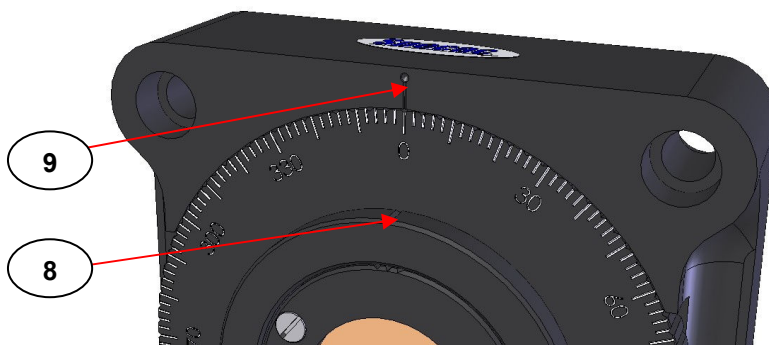

Fig 5. Degree Angle Reference Mark on the GS57340 Series Rotator Mount
The GS57010 Series polarizer can be rotated and set for any angle for the parallel lines of the polarizer grid from 0° through to a 90° angle when positioned in its compatible rotator mount (1). The degree angle that can be set is referenced against the degree angle mark (9) at the top of the GS57340 Series rotator mount (See Fig 5.).